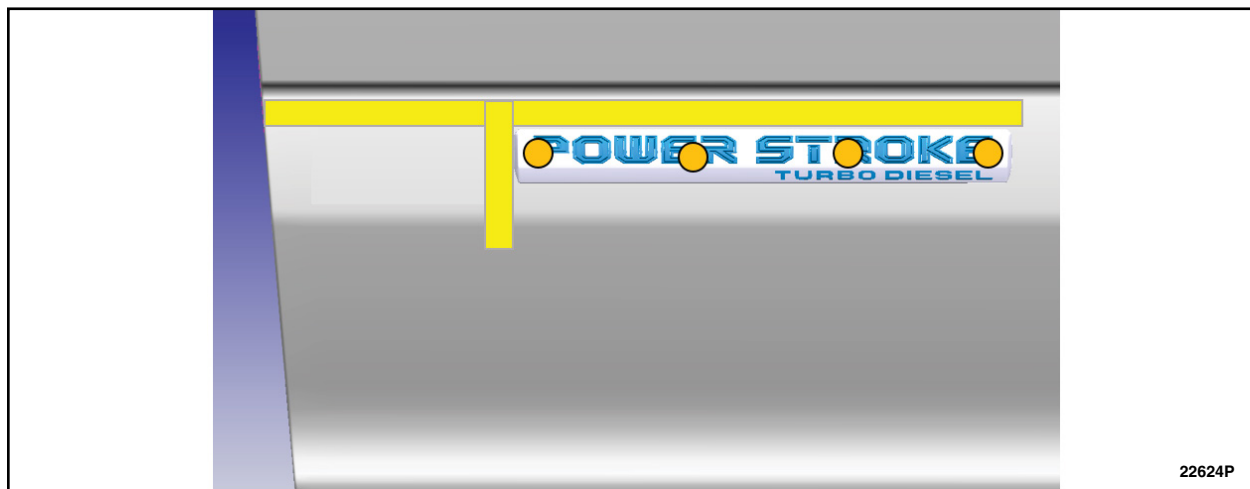

FIGURE 3
12. Remove the tape liner from the back of the badge and install to the door using the locating tape to properly align the badge. See Figure 3.
13. Using medium hand pressure, press for 3 seconds at a minimum of 4 separate locations along the length of the badge until the tape is fully adhered. See Figure 3.